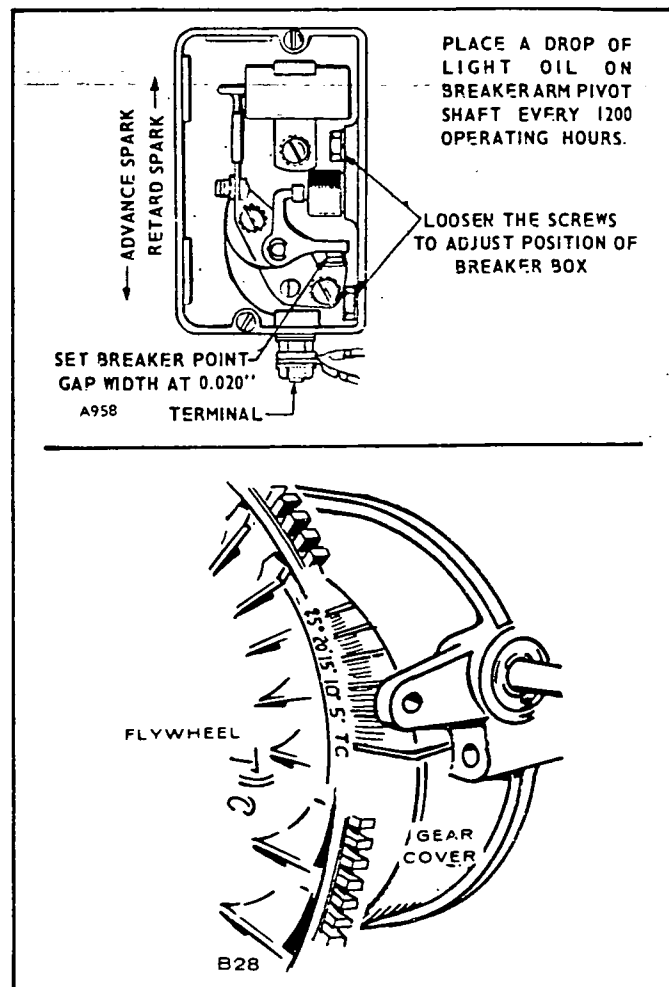

FIGURE 9. IGNITION TIMING
3. Crank the engine over slowly by hand in the direction of crankshaft rotation until the T/C mark on the flywheel and the 22° mark on the gear cover are exactly in line ON THE COMPRESSION STROKE (Figure 9).